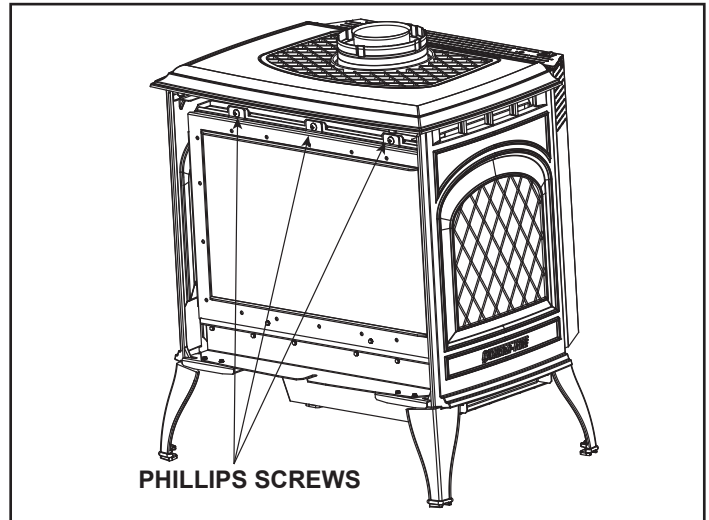

Figure 10.2 - Remove Glass Frame
3. Using a #2 phillips bit, remove three fasteners from the top of the glass frame assembly. See Figure 10.2. Remove glass from appliance.